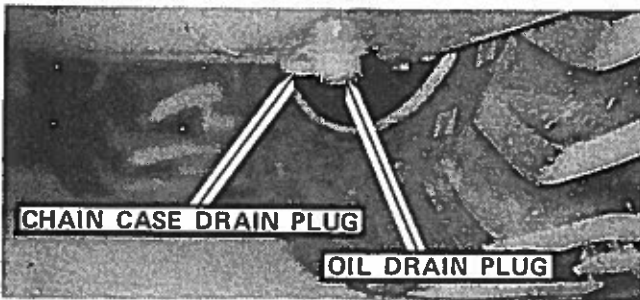

FIGURE 45
2. Remove oil level plug, see FIGURE 45. If oil is apparent, the level is satisfactory.
1. Remove the oil drain plug, located at the bottom of the reservoir on the R/H side, see FIGURE 45, and drain oil.